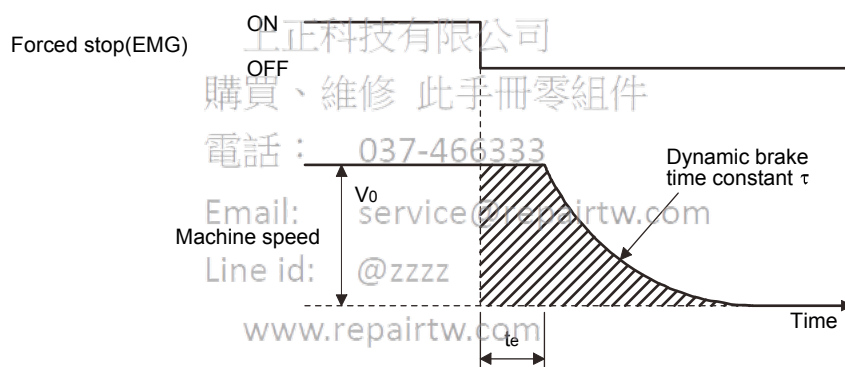

Fig. 13.3 Dynamic brake operation diagram
(1) Calculation of coasting distance
Fig.13.3 shows the pattern in which the servo motor comes to a stop when the dynamic brake is operated. Use equation (13.2) to calculate an approximate coasting distance to a stop. The dynamic brake time constant τ varies with the servo motor and machine operation speeds. (Refer to (2) (a), (b) in this section.)